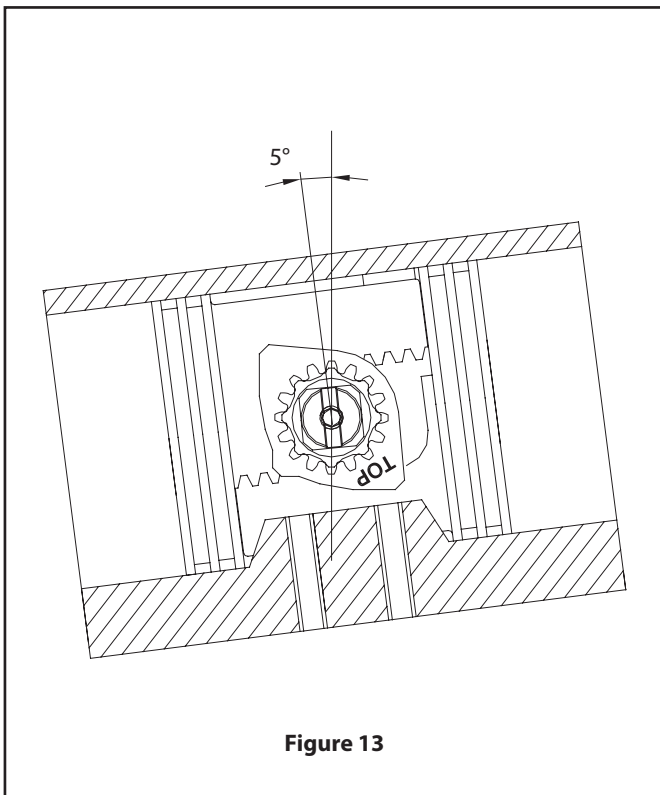

Figure 13
H. Temporarily install the position indicator (19) onto the shaft (60) to determine whether the correct stroke is obtained, Verify that the slot in the top of the position indicator (19) will rotate a minimum of 5° beyond the 90° vertical centerline of the actuator body (50) and a minimum of 5° beyond the 0° horizontal centerline of the actuator body as shown in (Figure 13). If the proper stroke is not obtained, remove the pistons and repeat from step 2d. Once the proper stroke is verified, remove the position indicator (19).